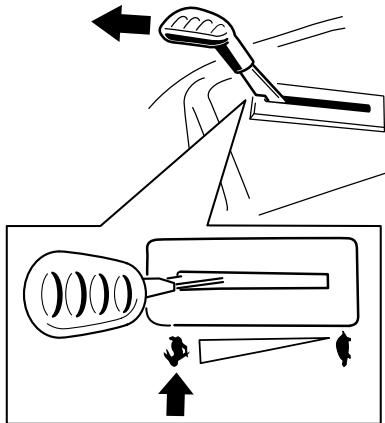

Figure 13
**Note:** Always engage the blades with the throttle in the FAST position (Figure 13).